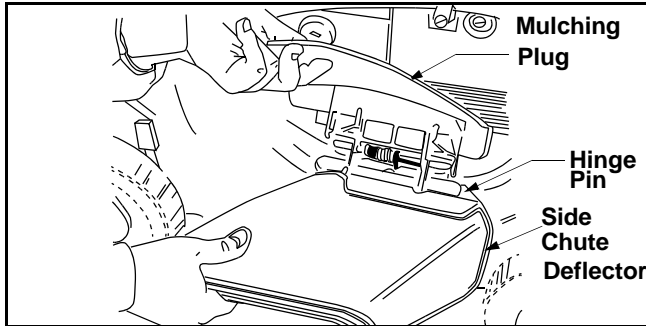

Figure 9
- On the right side of the mower, lift the mulching plug and slide the two hooks of the side-discharge chute under the hinge pin on the mulching plug assembly. Lower the mulching plug. See Figure 9.